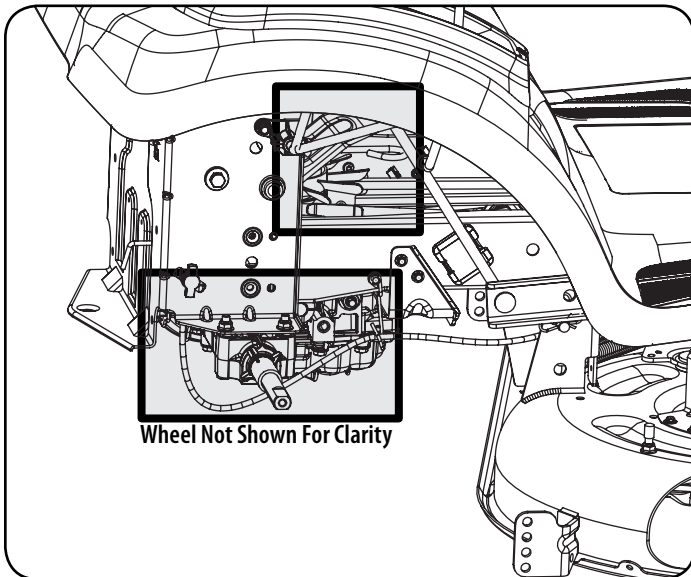

Figure 18
- Clean around and near the transmission, axle and the fan area. See Figure 18.